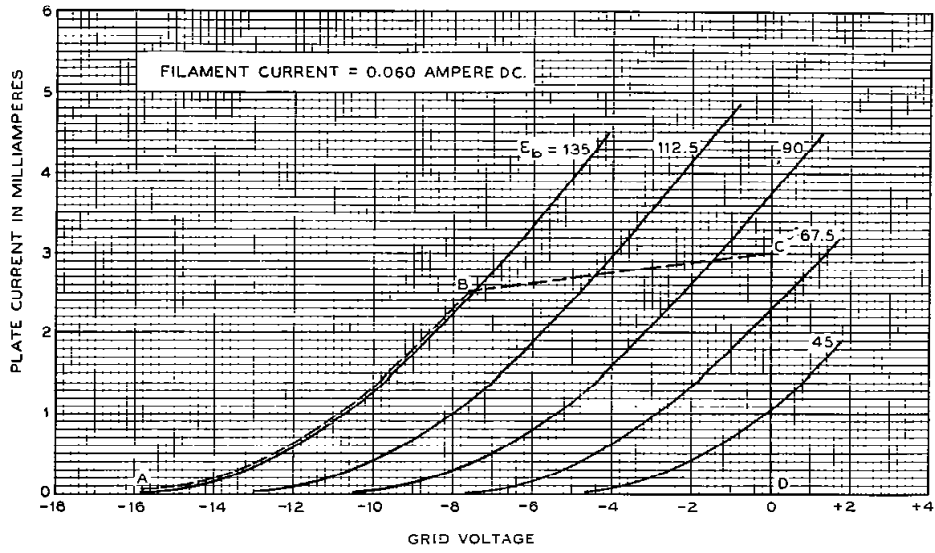
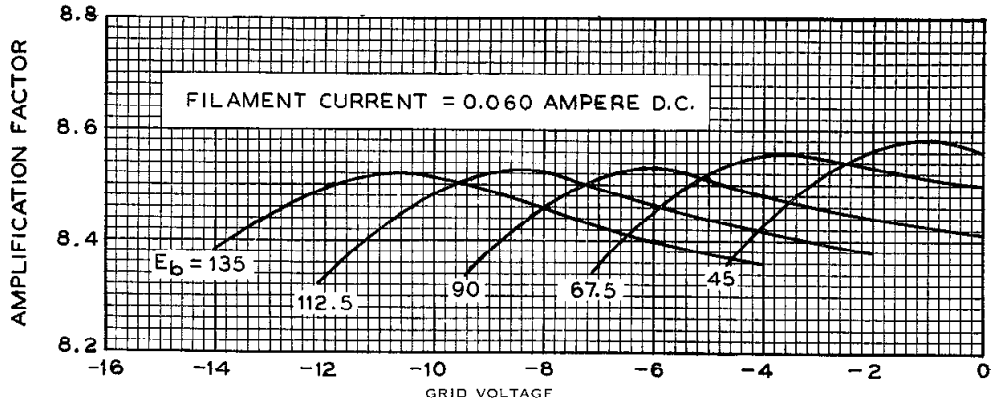

FIG. 3
FIG. 4
**Characteristics**—Plate current characteristics of a typical 257A tube are shown in Figure 3 as functions of grid voltage for several values of plate voltage. The grid and plate voltages are measured from the negative end of the filament. Corresponding amplification factor, plate resistance, and transconductance characteristics are given in Figures 4, 5 and 6, respectively. Plate current characteristics as functions of plate voltage are shown in Figure 7 for several values of grid voltage.
**Operating Conditions and Output**—Permissible operating plate and grid voltages are included within the area, ABCD, in Figure 3. Amplification factor, plate resistance, transconductance, and performance data are given in the table on page 3 for a number of typical operating conditions represented by selected points within this area. The less severe operating conditions should be selected in preference to maximum operating conditions wherever possible. The life of the tube at maximum conditions may be shorter than at less severe conditions.